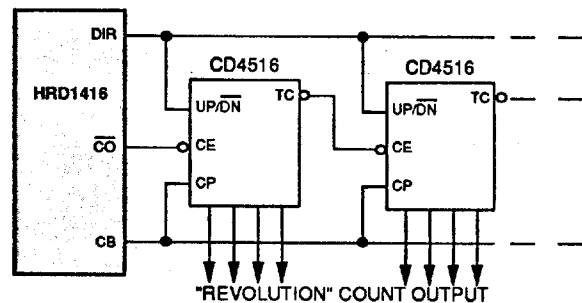

FIGURE 14 Resolver Revolution Counting
The model 1416's "direction" (DIR) and "carry out" (CO) signals can be used to monitor resolver "revolutions" (or turns) in "multi-turn" systems. Figure 14 shows a typical connection to a "4516" type Up/Down counter. In this configuration the counter(s) is synchronously clocked by the CB (converter busy) output from the 1416. The counter output is incremented or decremented by "one count" on the rising edge of CB, when a "negative" CO pulse is sent from the 1416, indicating an angle transition from 359.995 to 0.000 degrees (all bits "on" to all bits "off") or vice-versa. Additional Up/Down counters can be "cascaded" to any number of bits, by extending the CB, DIR and "carry" from the previous counter stage. The counter's "reset" and/or "preset" inputs can be used to "initialize" the "revolution" count output.